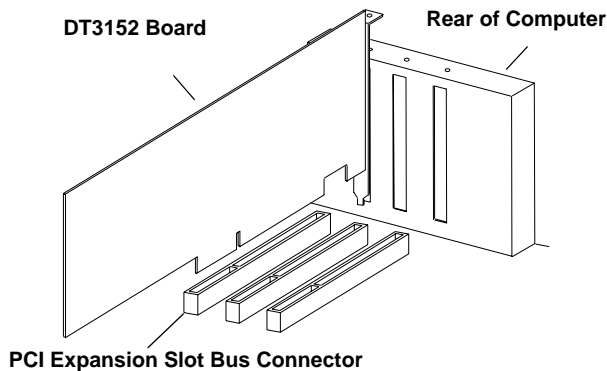

Figure 3: Inserting the DT3152 Board in the Computer
4. Position the board so that the cable connectors are facing the rear of the computer, as shown in Figure 3.